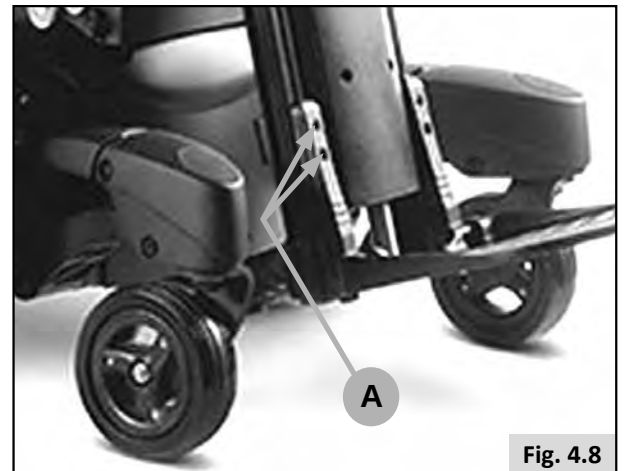

Fig. 4.8
- Undo the 2 bolts with a 5.0 mm Allen key, (A-Fig.4.8).